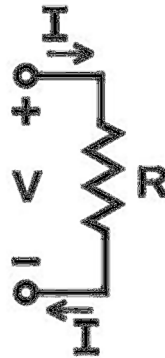

Figure 1: Electric Circuit
Ohm's Law (Equation1) states that the voltage between the two points is proportional to the current flowing through the two points. In Figure 1 below, if a voltage (V) is applied across Resistance (R), a current of magnitude (I) will flow across these 2 points: